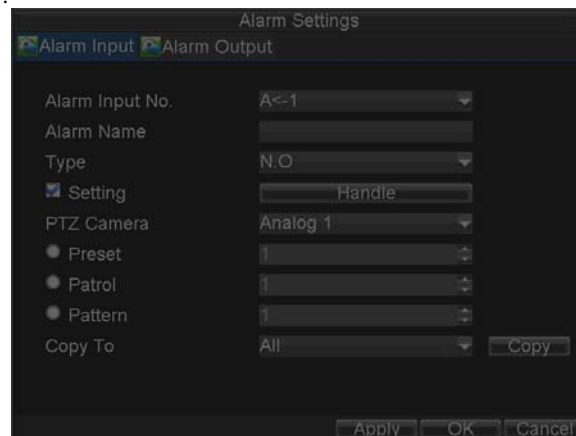

Figure 9. Alarm Management Settings
2. Select the Alarm Input No. and click the *Set* button to enter the Alarm Input Settings menu, shown in Figure 9.